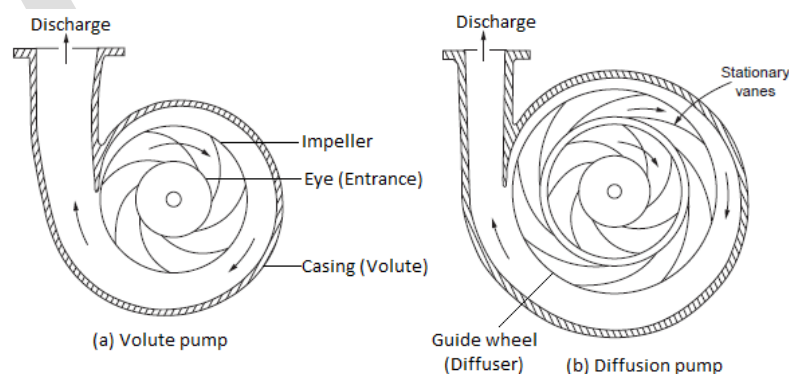

Fig. 5.1 Classification based on pump casings
Figure 5.1(a) shows the working principal of a centrifugal pump. The liquid to be pumped enters the centre of the impeller which is known as eye of the pump and discharge into the space around the casing and hence filling the space. Due to the rotation of the impeller inside the pump casing a forced vortex is set up which imparts pressure head to the liquid purely by centrifugal action.
**1. Volute Pump:** A volute pump is used to discharge water at a high velocity. The pump consists of a volute casing of spiral form with gradually increasing cross sectional area towards the discharge end. Mean velocity of flowing fluid remains constant as cross sectional area at any point is proportional to amount of water flowing through that section. Loss of kinetic head due to eddy formation is avoided due to the spiral shape. A volute pump is shown in figure 5.1(a).
**2. Diffusion Pump or Turbine Pump:** The diffusion pump consists of an impeller surrounded by guide wheel fitted with stationary vanes or diffusers as shown in figure 5.1(b). The cross sectional area of these vanes increases gradually so that pressure of the fluid increases by decreasing velocity as fluid passes over the vanes. The guide vanes are so designed that the angle made at the entrance should perfectly match with the direction of absolute velocity at the outlet of the impeller.